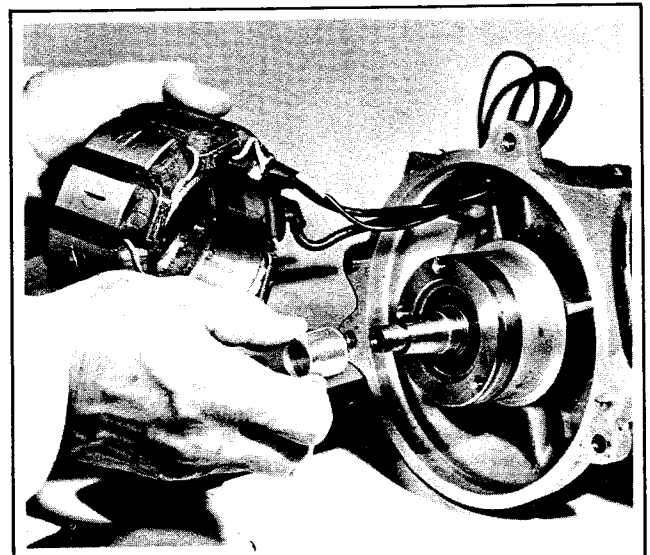

Figure 5E-26. Installing Stator Using Seal Tool
## REASSEMBLING STARTER-GENERATOR (Fig. 5E-21)
Apply Harley-Davidson Seal-All and install new crankcase seal (21) in stator (15) with seal lip facing inward. Apply a thin coating of sealer to both sides of a new stator gasket (20). Position stator gasket (20) on crankcase bearing housing. Place seal tool, part number 95630-63 on starter-generator shaft taper. See Fig. 5E-26. Feed stator wires through wire hole in crankcase as stator (15) is being slid into position on crankcase.